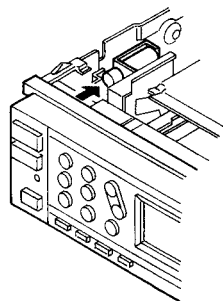

Fig. 3
1. Press the solenoid lever in the direction of the arrow to open the grille assy. (Fig. 3)